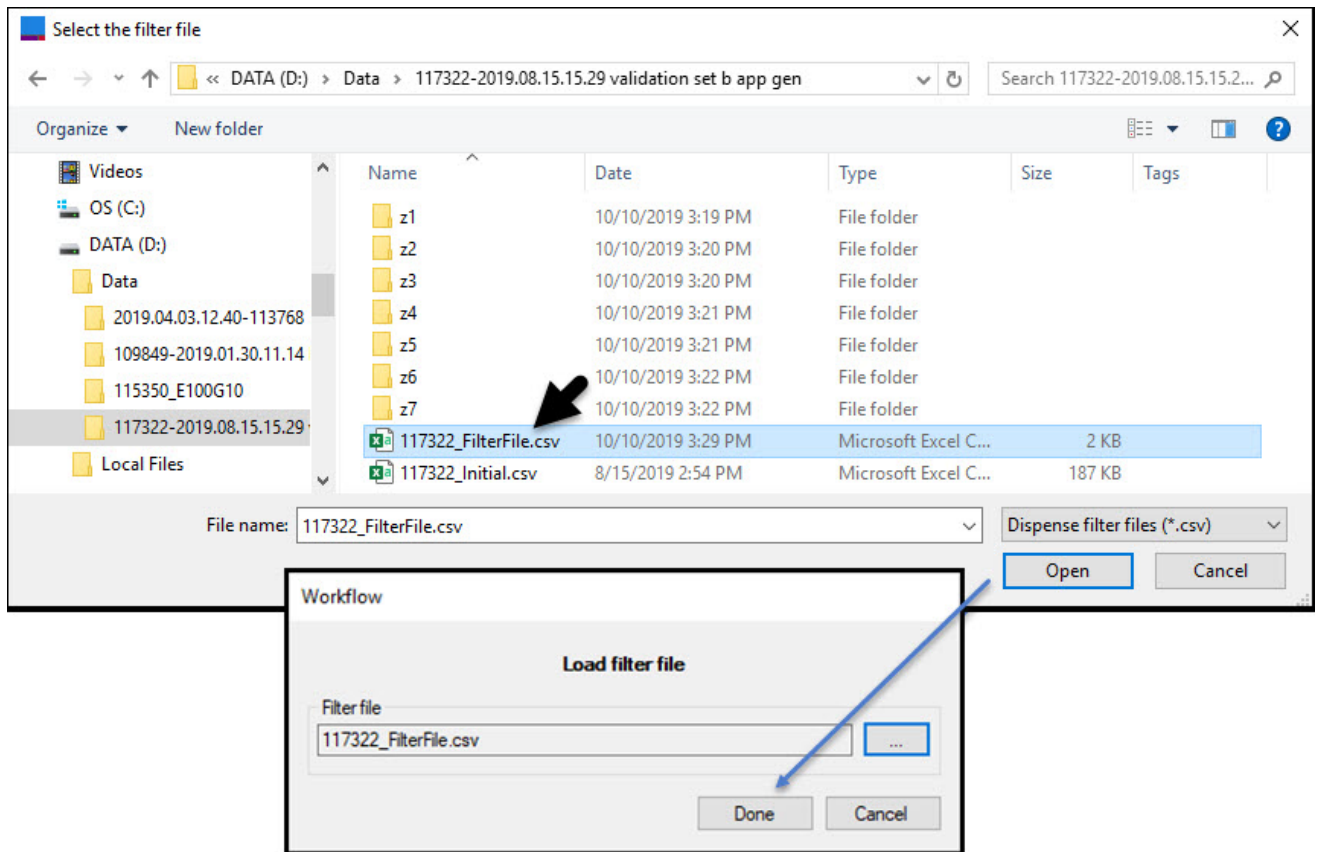

Figure 95. Selecting (top) and loading (bottom image) the filter file.
- b. Select the filter file generated from the cell scan step (previous step, Section X.E) or one created manually (Appendix D) (Figure 95, top).
- e. Back in the *Workflow* window, click [Done] to confirm (Figure 95, next page).